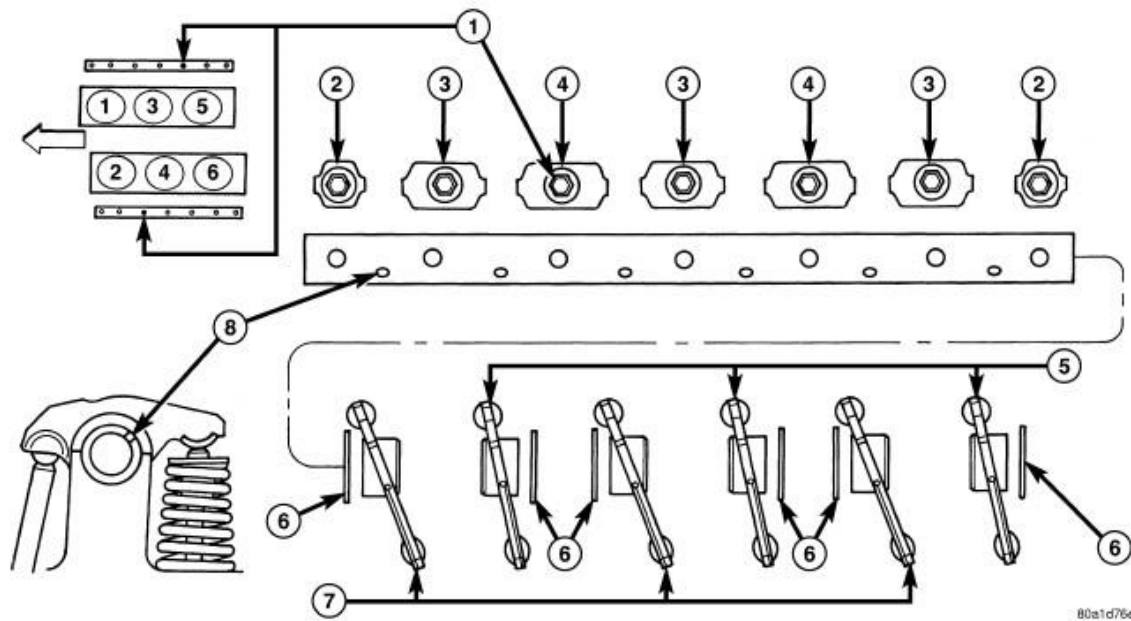

Fig. 73: Rocker Arms & Shaft Assembly Positioning
2. Remove rocker arms. Refer to **Fig. 73**. Identify the component locations for reassembly in original locations.